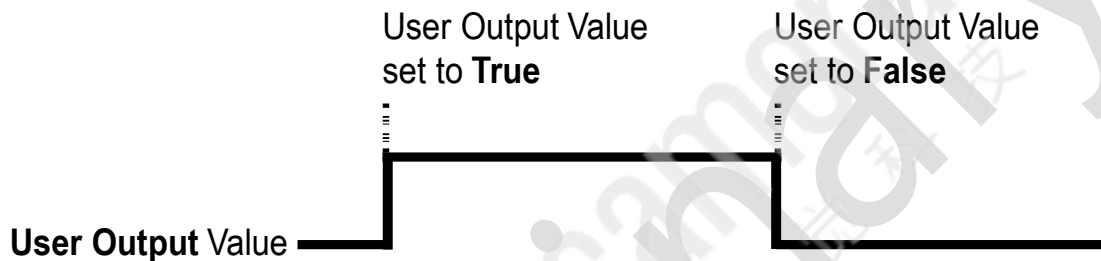

Figure 5-11 User Output
- 4 Save the Flat Field data to non-volatile memory by using the Flat Field Data Save parameters. The reduced Flat Field data is enlarged using bilinear interpolation, as shown in <Figure 5-11 Bilinear Interpolated Magnification>, before being applied for correction. To disregard the generated Flat Field correction data and load the existing Flat Field correction data, execute the Flat Field Data Load parameter before executing the Flat Field Data Save parameter.